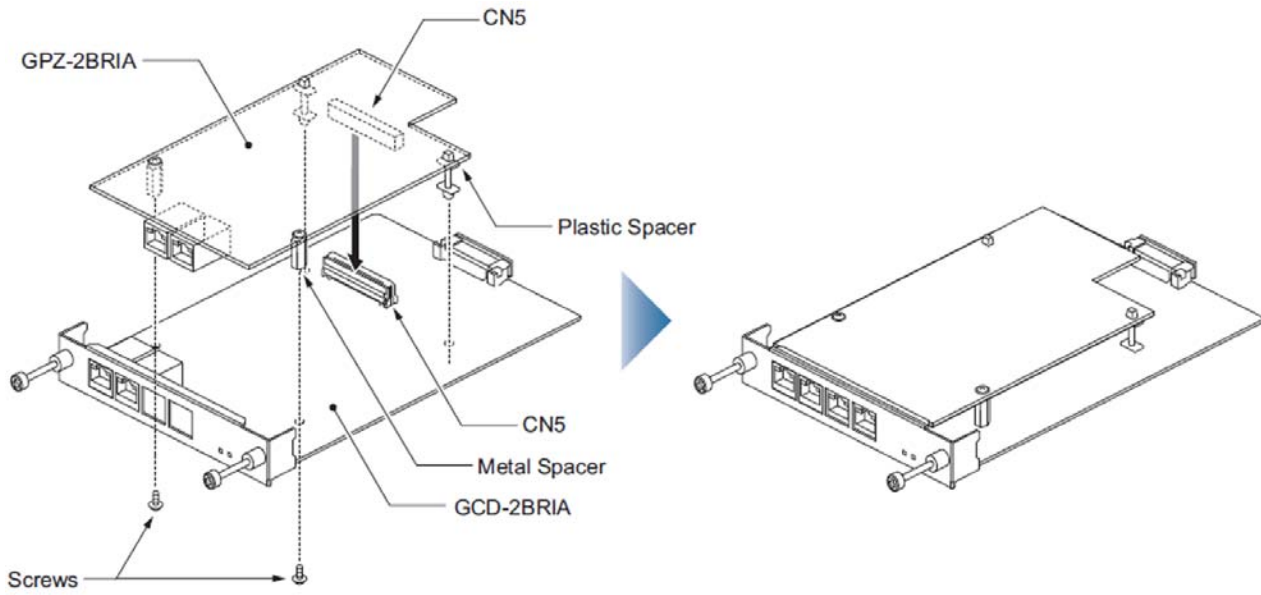

Figure 4-17 Installing the PZ-2BRIA Daughter Board
- ☞ *Attach the PZ-2BRIA daughter board to the GCD-2BRIA blade by lining up the CN5 connectors and pressing the boards together. (Refer to Figure 4-17 Installing the PZ-2BRIA Daughter Board on page 4-66.)*
Table 4-35 PZ-2BRIA RJ-45 T-Bus Cable Connector Pin-Outs show the pin-outs for the RJ-45 cable connector for S-Bus and T-Bus connections. Refer to Figure 4-17 Installing the PZ-2BRIA Daughter Board on page 4-66 for an illustration showing the location of the connectors on the PZ-2BRIA daughter board.